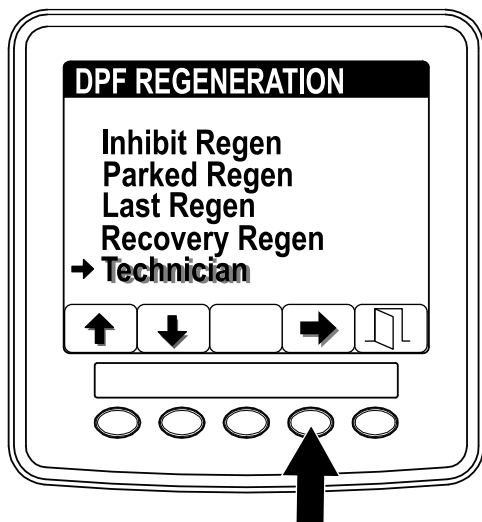

Figure 38
1. Access the DPF Regeneration menu, and press buttons 1 or 2 to scroll down to the TECHNICIAN option (Figure 38).